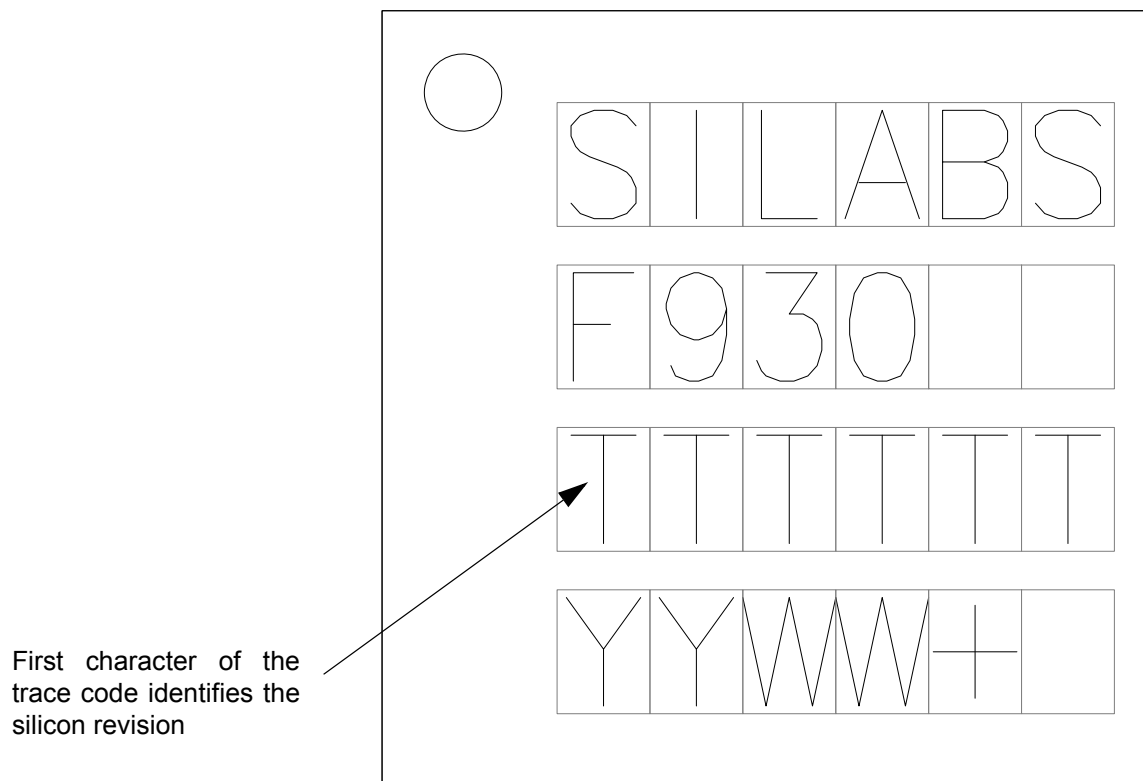
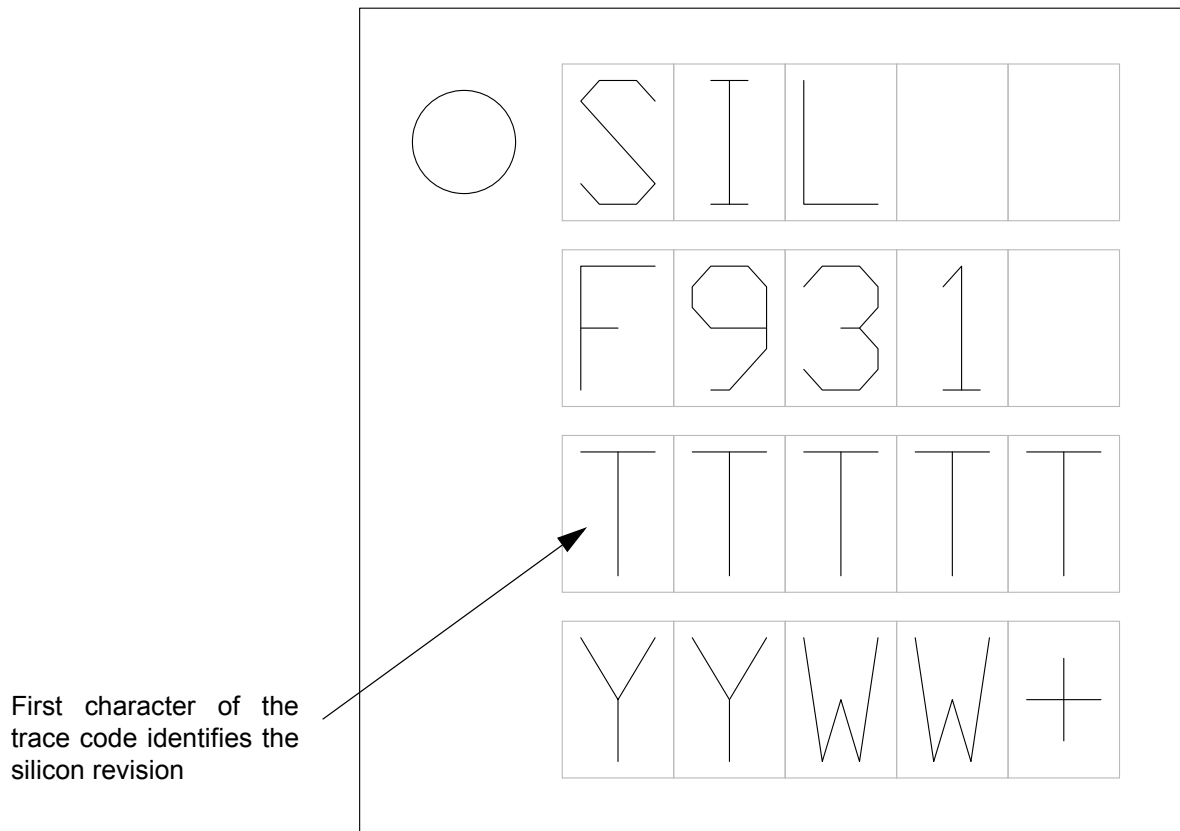
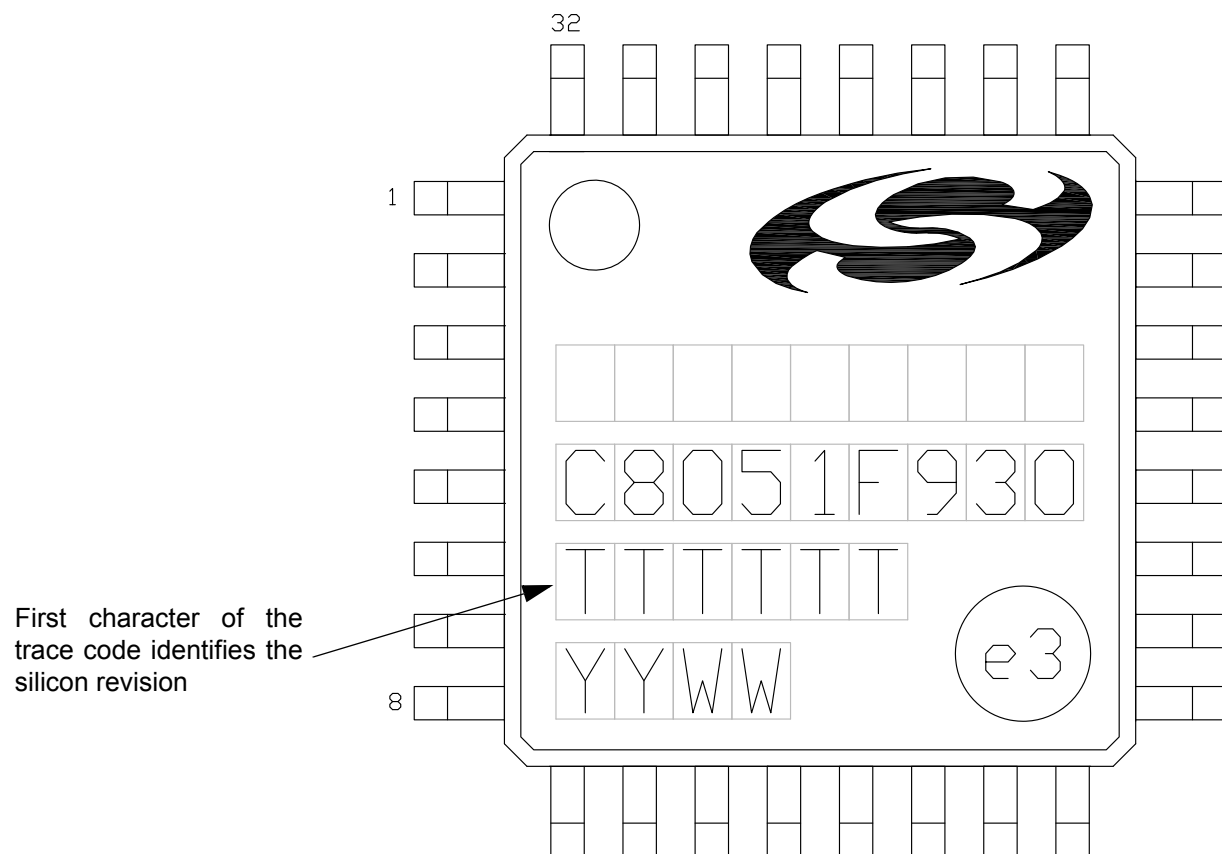

Figure 3.4. QFN-32 Package Marking Diagram
Figure 3.5. QFN-24 Package Marking Diagram
Figure 3.6. LQFP-32 Package Marking Diagram
*Note: Not recommended for new designs. Starting with silicon revision F, the ordering part numbers have been updated to include the silicon revision and use this format: "C8051F930-F-GM". Older ordering part numbers of the format "C8051F930-GM" are no longer recommended for new designs. Package marking diagrams are included as Figure 3.4, Figure 3.5, and Figure 3.6 to help identify the silicon revision.